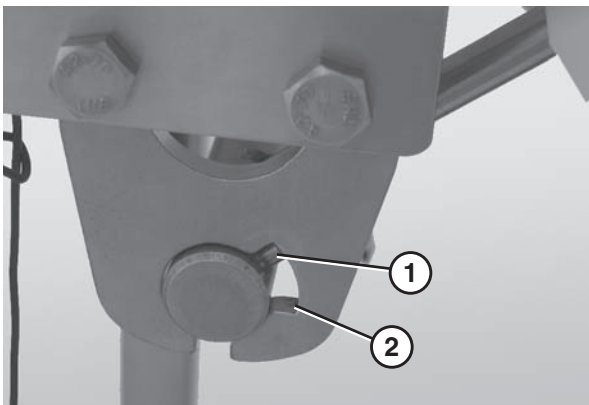

Figure 20
3. Insert the notched end of the scraper shaft (Figure 20, item 1) so that it is situated within the groove in the mounting plate (Figure 20, item 2).